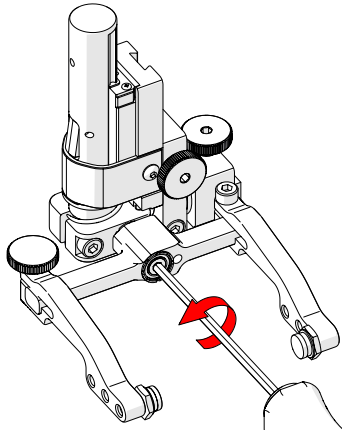

Fig. 121 - Unscrew yoke pivot screw
2. Using the supplied 3 mm hex driver (Fig. 51), unscrew the yoke pivot screw and remove the yoke (Fig. 121).